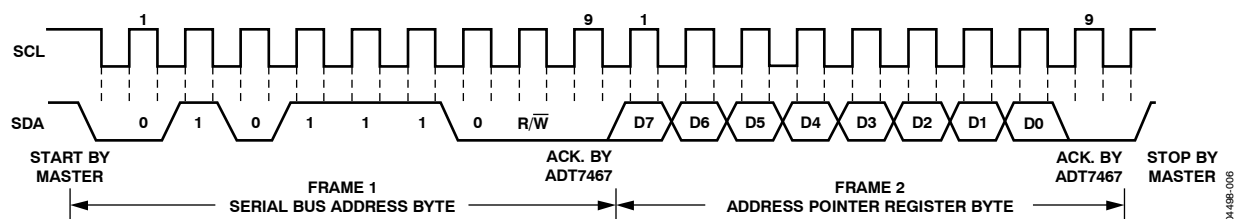
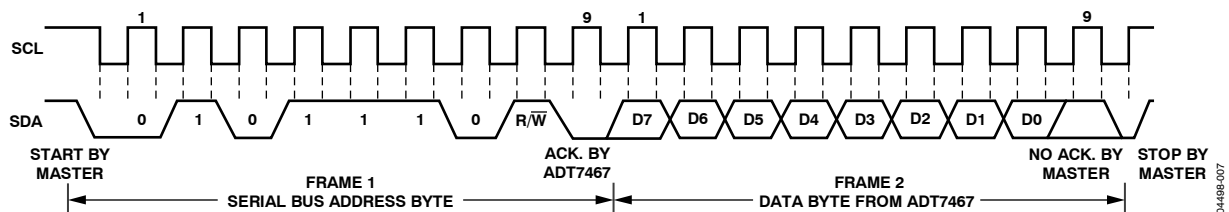

Figure 17. Writing to the Address Pointer Register Only
Figure 18. Reading Data from a Previously Selected Register
- If the address pointer register value of the ADT7467 is unknown or not the desired value, it must be set to the correct value before data can be read from the desired data register. This is achieved by writing a data byte containing the register address to the ADT7467. This is shown in Figure 17. A read operation is then performed consisting of the serial bus address and the  $\overline{R/W}$  bit set to 1, followed by the data byte read from the data register. This is shown in Figure 18.
- If the address pointer register is known to be at the desired address, data can be read from the corresponding data register without first writing to the address pointer register, as shown in Figure 18.